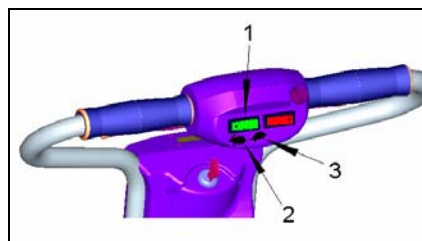

Fig 9
**SPEED SWITCH** - Facing you on the control console you will see 2 switches (fig 9). The left hand one of these is the 2 position speed switch. The slow speed mode indicated by a turtle is approximately 2 mph and should be used when learning the scooter and is also ideal for shopping and driving indoors etc (fig 9-2). The fast driving mode is activated by pressing the other side of the switch shown by the hare. This is the 4mph speed and when activated the switch will light up (fig 9-3).